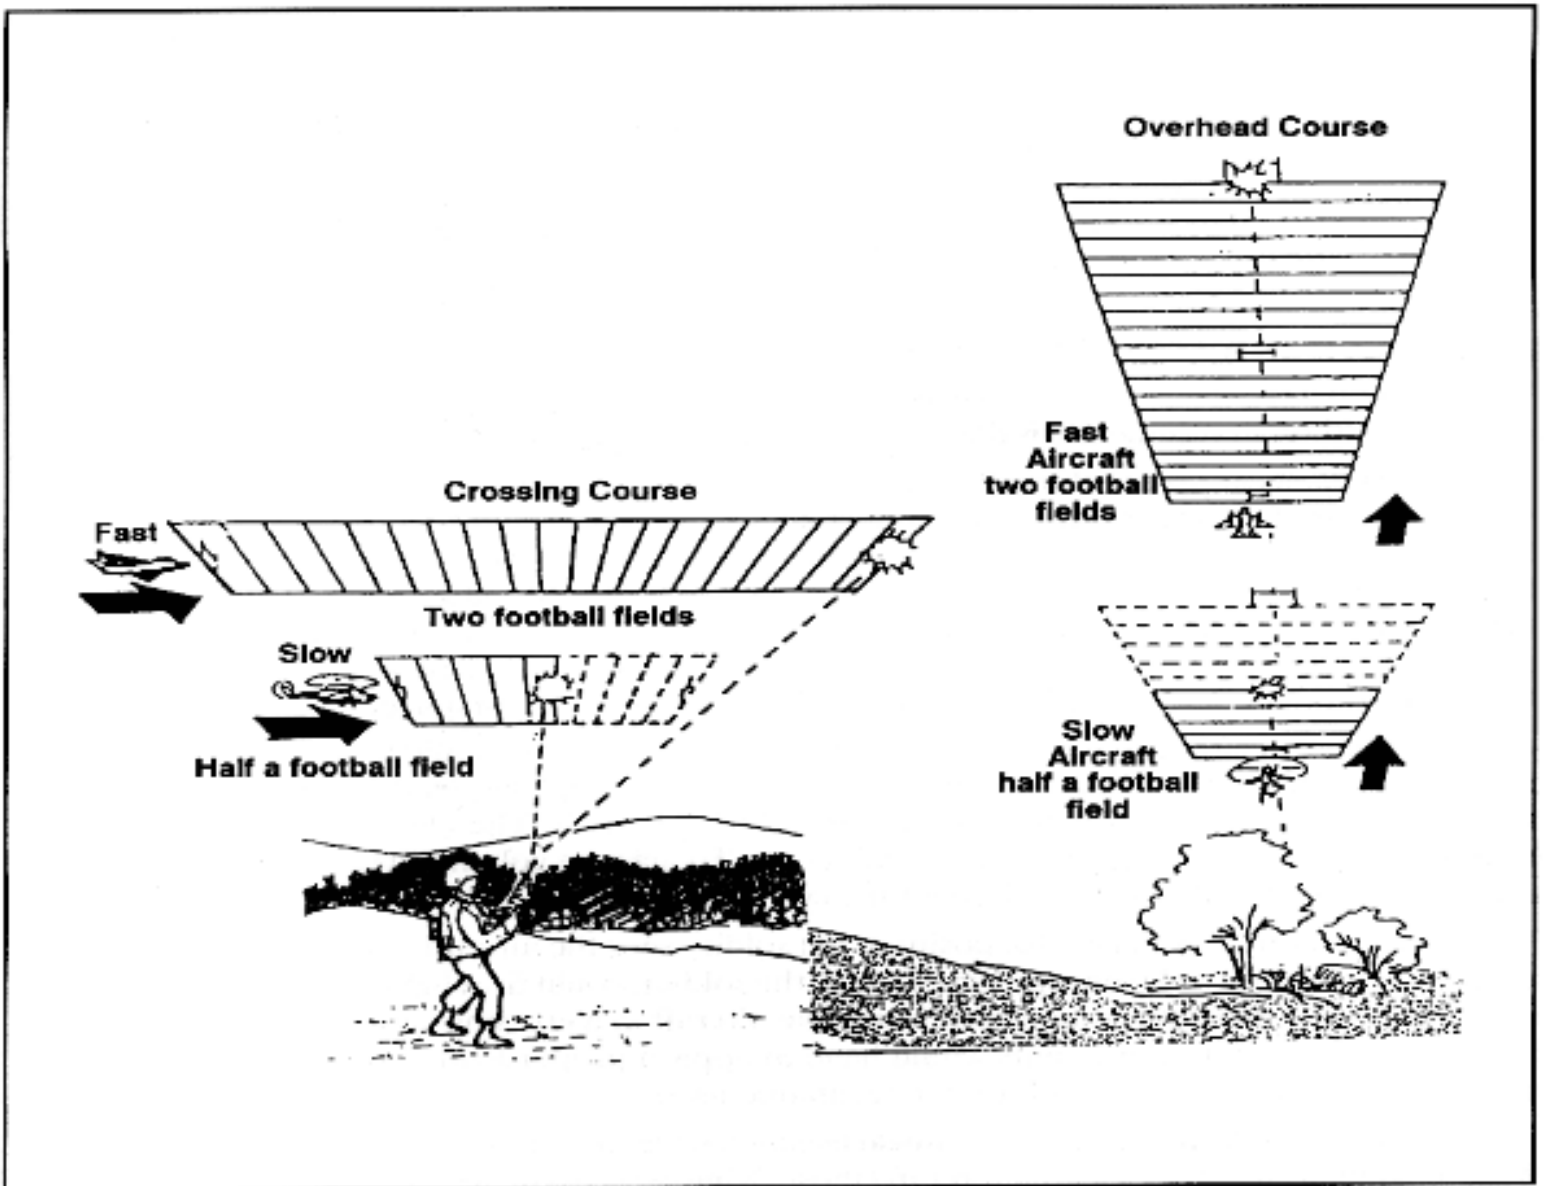

Figure C-1. Football-field technique.
(1) The first technique is the **football-field technique**(Figure C-1). When engaging high-performance aircraft (those flying in excess of 200 miles per hour), automatic riflemen should apply a one-football-field lead in front of the target and fire at the rapid rate until the target passes through the tracer stream. If the target is a low-performance aircraft, such as a helicopter, with a speed of 200 miles per hour or less, automatic riflemen should apply half a football-field lead in front of the target, firing the cyclic rate. With all soldiers firing, a curtain of fire is formed because of slight differences in each soldier's estimate of the distance and lead.
Figure C-1. Football-field technique.